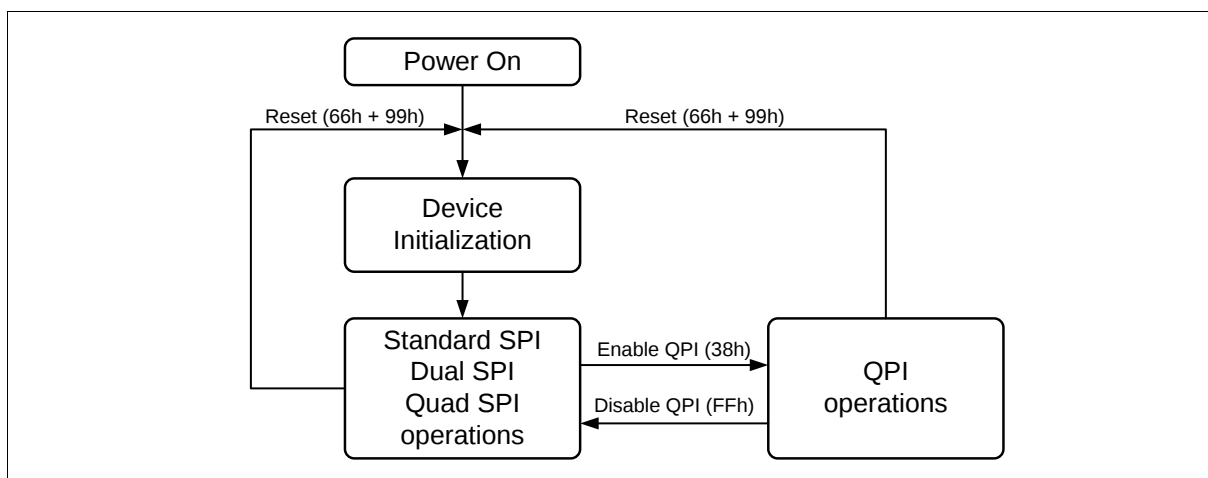

Figure 2 FM25LQ32I3 Serial Flash Memory Operation Diagram
The FM25LQ32I3 supports Quad Peripheral Interface (QPI) operations only when the device is switched from Standard/Dual/Quad SPI mode to QPI mode using the “Enable QPI (38h)” instruction. The typical SPI protocol requires that the byte-long instruction code being shifted into the device only via DI pin in eight serial clocks. The QPI mode utilizes all four DQ pins to input the instruction code, thus only two serial clocks are required. This can significantly reduce the SPI instruction overhead and improve system performance in an XIP environment. Standard/Dual/Quad SPI mode and QPI mode are exclusive. Only one mode can be active at any given time. “Enable QPI (38h)” and “Disable QPI (FFh)” instructions are used to switch between these two modes. Upon power-up or after a software reset using “Reset (66-99h)” instruction, the default state of the device is Standard/Dual/Quad SPI mode. To enable QPI mode, the non-volatile Quad Enable bit (QE) in Status Register-2 is required to be set. When using QPI instructions, the DI and DO pins become bidirectional DQ₀ and DQ₁, and the WP# and HOLD# pins become DQ₂ and DQ₃ respectively. See Figure 2 for the device operation modes.